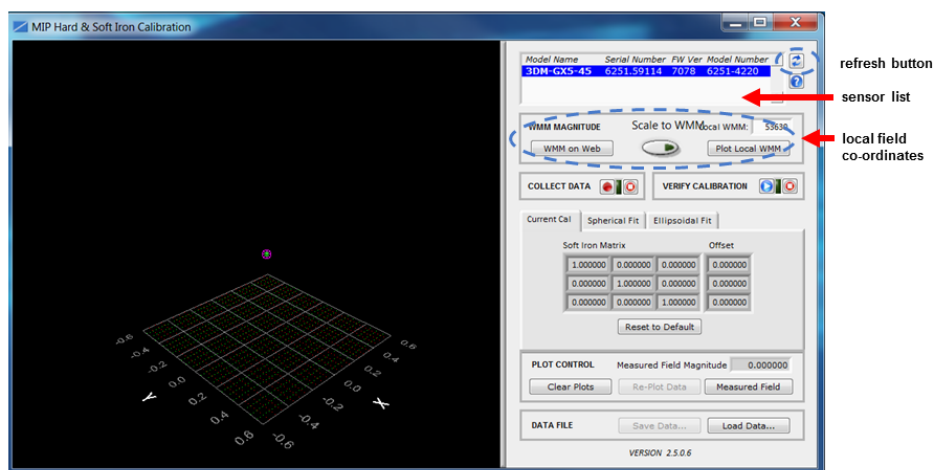

Figure 26 - Sensor Menu
- The sensor should automatically appear in the sensor list. If not, use the Refresh button to query it and then select the sensor (Figure 26 - Sensor Menu).